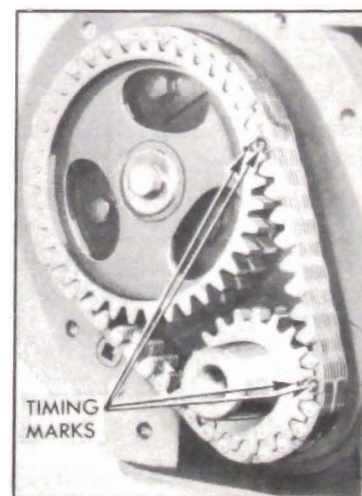

Figure 2-27—Timing Chain and Sprocket Marks
punch mark at one space between two teeth. Two teeth on timing chain, ten links apart, are marked with copper plated washers. See figure 2-27.
8. Install new timing chain with camshaft sprocket, being sure that timing marks on sprockets and chain are in line as shown in figure 2-27.